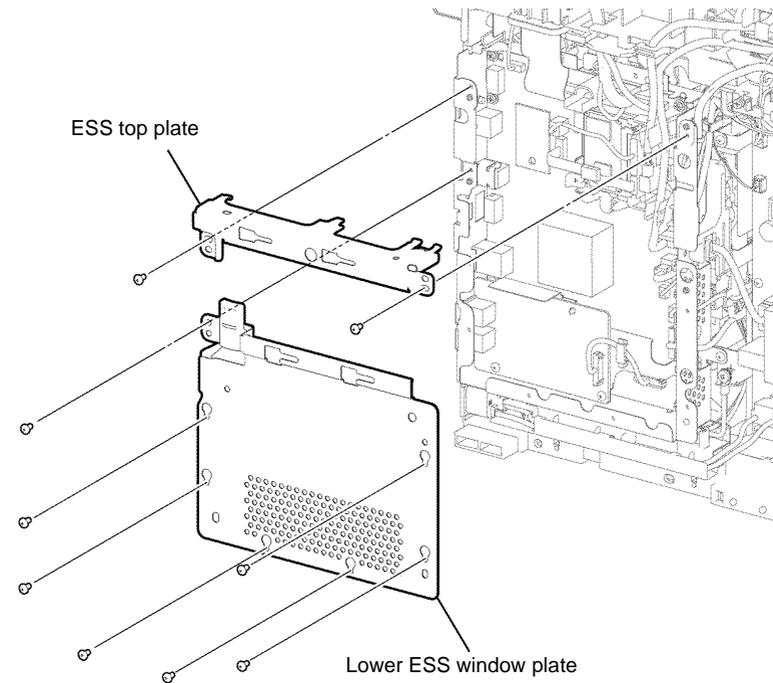

Figure 2 ESS top and lower plate removal
8. Remove seven screws (silver, M3, 6mm), then remove the lower ESS window plate with WIFI release lever, Figure 2.
9. Remove two screws (silver, M3, 6mm), then remove the ESS top plate, Figure 2.